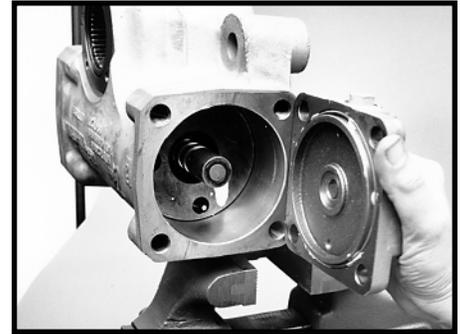

Figure 120
- 17. Position the end cover (37) so that the poppet adjusting screw (42) is aligned with the end of the poppet (32). SEE FIGURE 120.